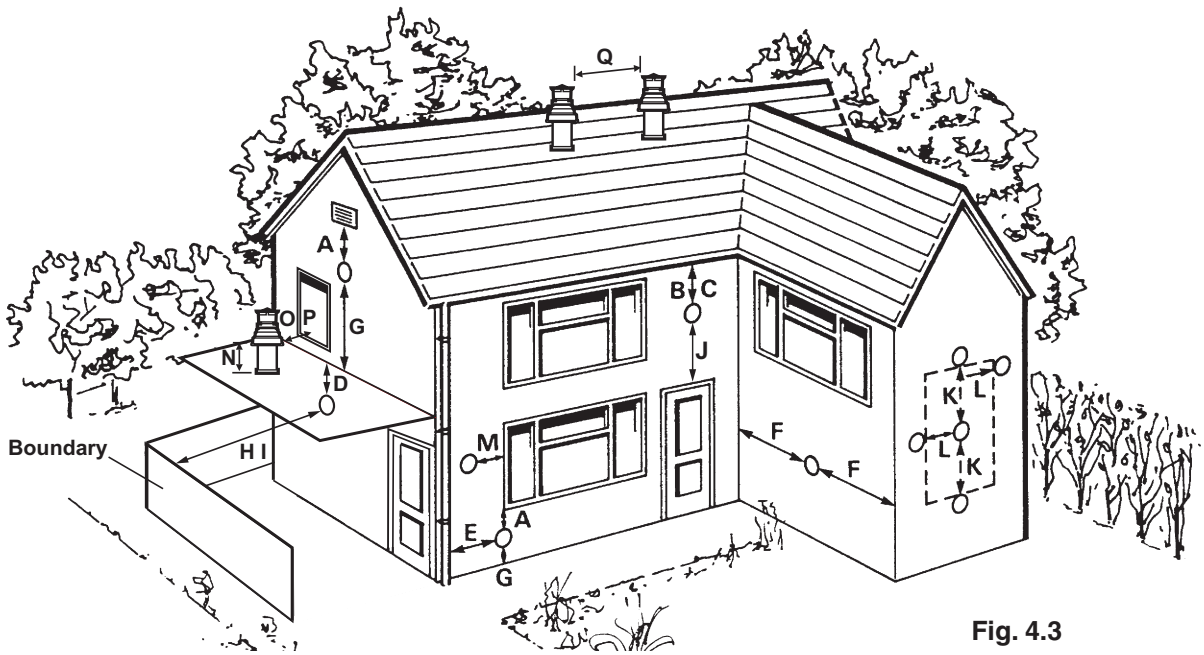

Fig. 4.3
4.5 FLUE TERMINAL LOCATION - Figs. 4.3 and 4.4